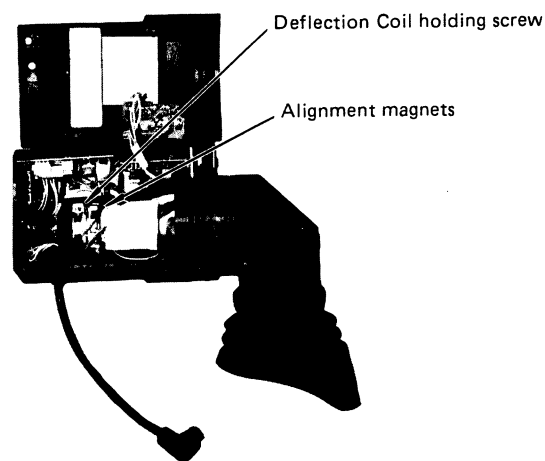

Fig. 5-10-2
- o Loosen the deflection coil holding screw. (Fig. 5-10-2)